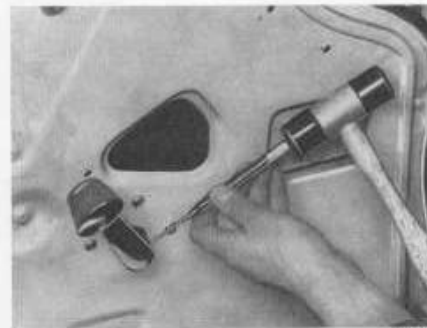

Fig. 11. Removing inner lock handle.
6. The inner handle is removed by knocking out the pin with a suitable punch as shown in Fig. 11, after which the handle can be taken off.